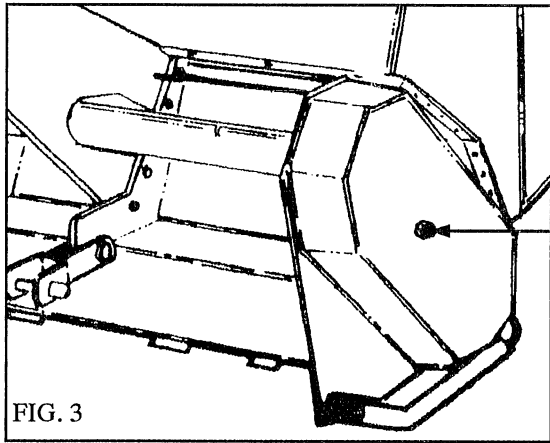

FIG. 3
- Grease the lateral supports of the rotor after cleaning correctly the grease nipples for better lubrication. The right side lateral support is uncovered and can be seen, while the left one is covered by the cover itself, and can be cleaned by removing it, unscrewing nut “a” (see fig. 3). Use lithium type grease NLGI2.
- Take out cover after unscrewing nut "a" (fig. 3);